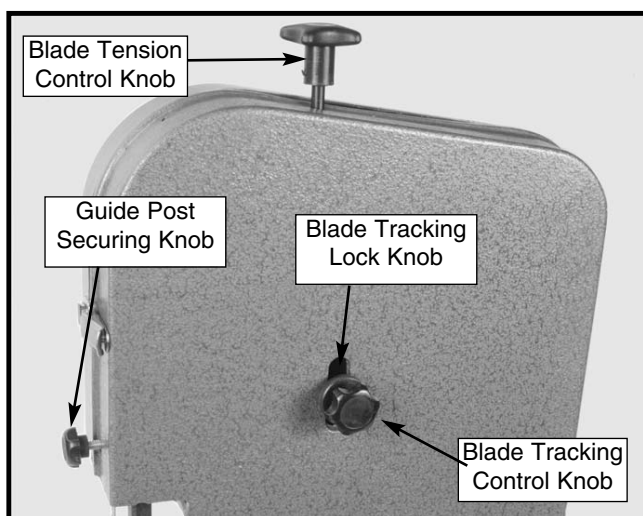

Figure 8. Tracking adjustment knobs.
3. Loosen the lock knob (#22) on the tracking control knob. Turn the tracking control knob clockwise or counter-clockwise while turning the upper wheel by hand until the blade stays in one position. **Figure 8.**